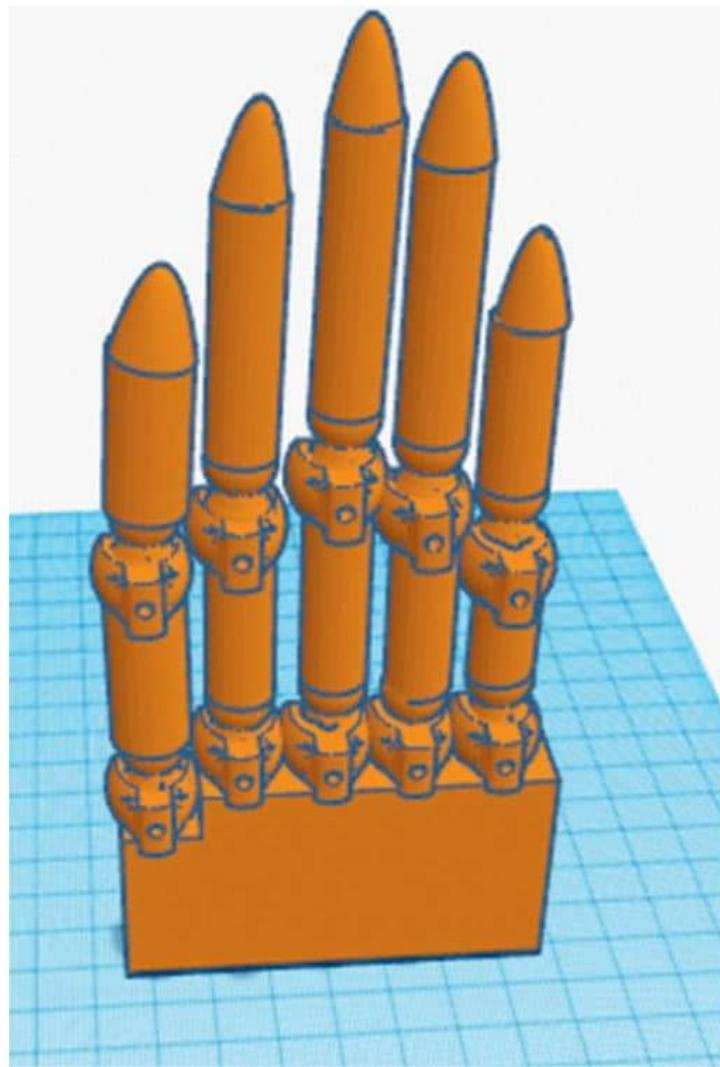

FIG. 6: The CAD view of the assembled hand with fingers and palm.
- Assemble all the knuckles by putting balls into sockets (fig. 6).